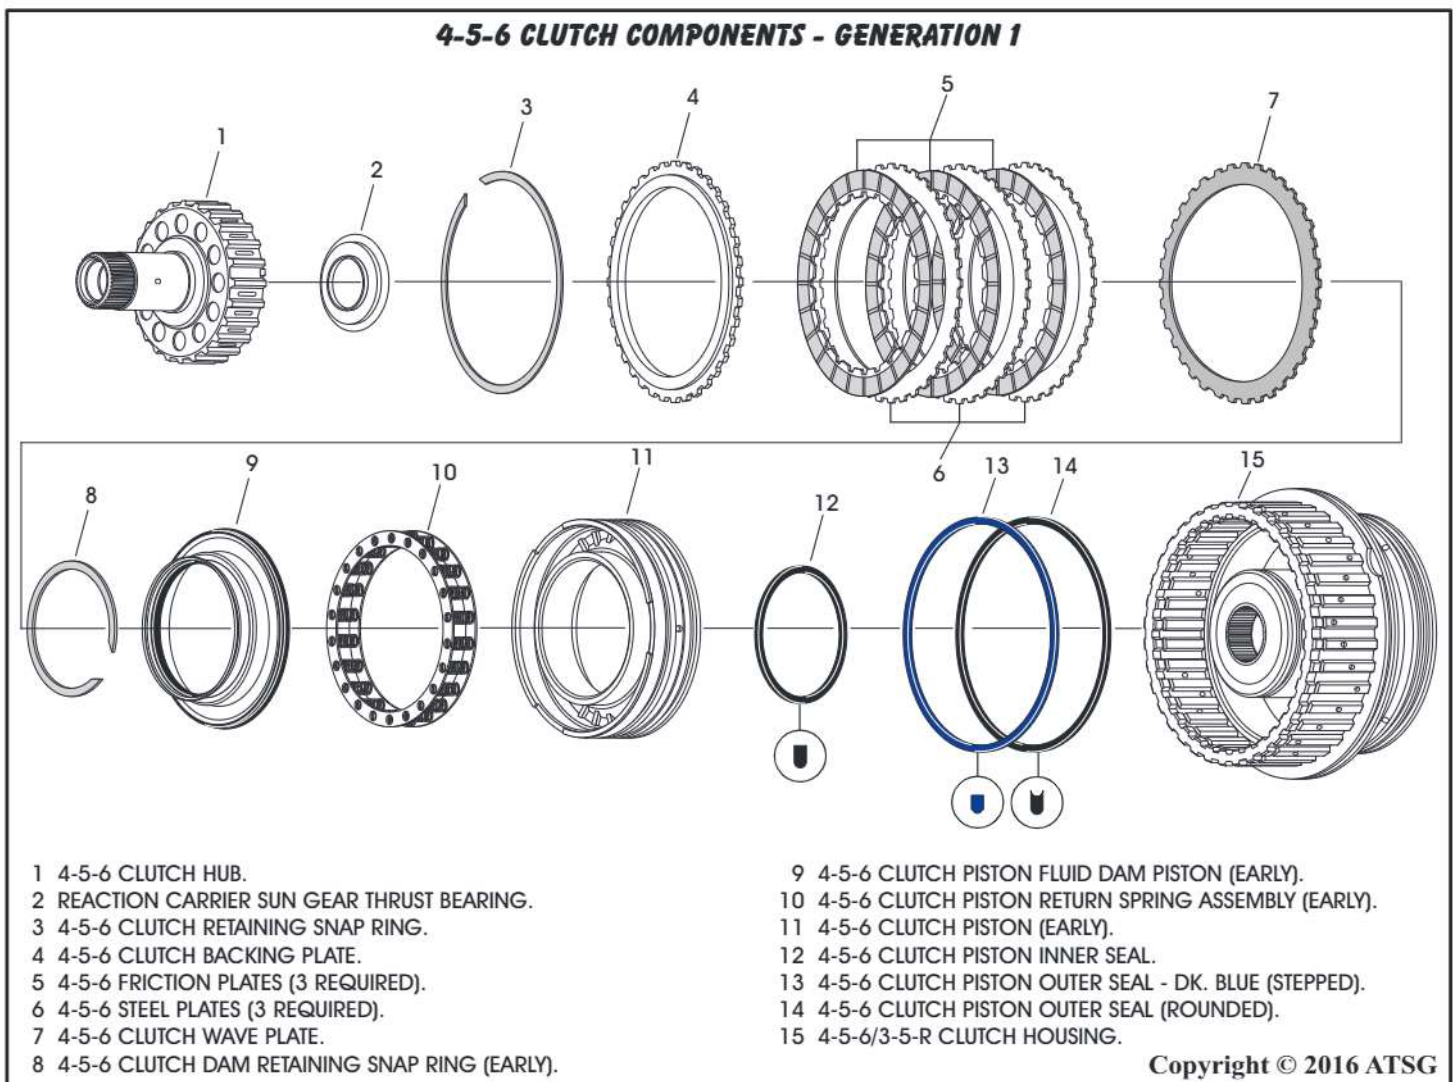

Figure 87
5. An exploded view of all the 4-5-6 clutch components can be seen in Figure 87. Some components are either early design or are Generation 1 level.
6. The Generation 1 4-5-6 clutch pack uses three frictions and three steel plates with a wave plate at the bottom of the pack as seen in Figure 87.
8. The 4-5-6 clutch piston return spring assembly is the early design level used in 2007-2009 models. This a closed design return spring assembly using a retainer on both sides of the springs as seen in Figure 87.